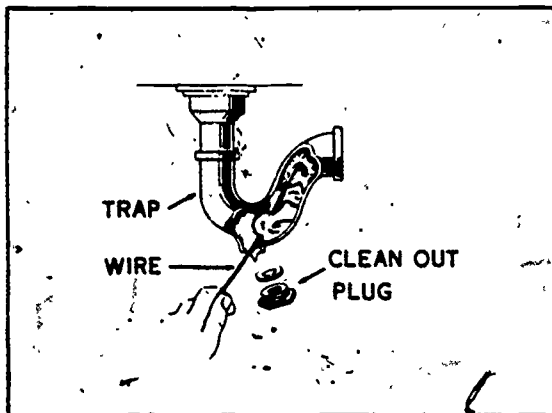

Figure 5-18 Removing stoppage from a P-trap.
**Opening Clogged Traps.** As you can see in figure 5-18, traps fitted with cleanout plugs are easily opened. To open the trap, remove the cleanout plug, and pull the contents through the cleanout hole with a bent wire. Flush the trap with hot water before you replace the cleanout plug. Traps that do not have a cleanout plug are a little more difficult to open. Often chemicals, force cups, or sink snakes are required to remove the more stubborn types of stoppages. If all the above operations fail, you may have to remove the trap and reverse-flush it with water to remove the stoppage.